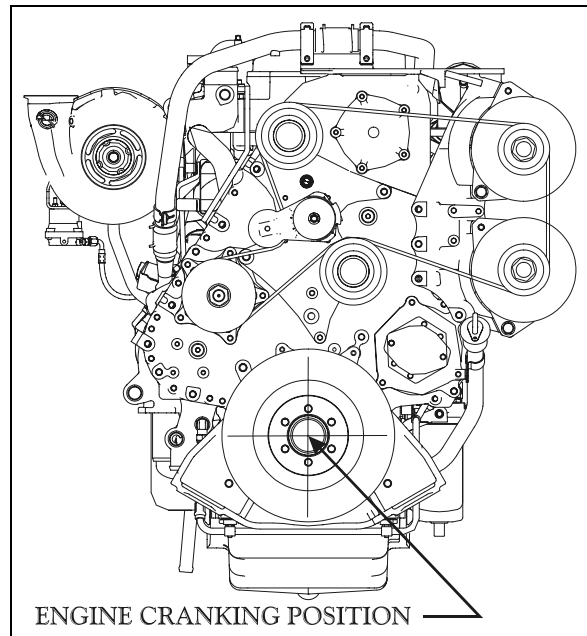

FIGURE 9: ENGINE CRANKING POSITION
14. Remove the access plug from the flywheel housing on the R.H. side below starter. From access plug, remove the 12 converter-to-flexible plate attaching screws. Cranking the engine to gain access to the attaching screws may be done by turning the crankshaft pulley using a suitable adapter (fig. 9).